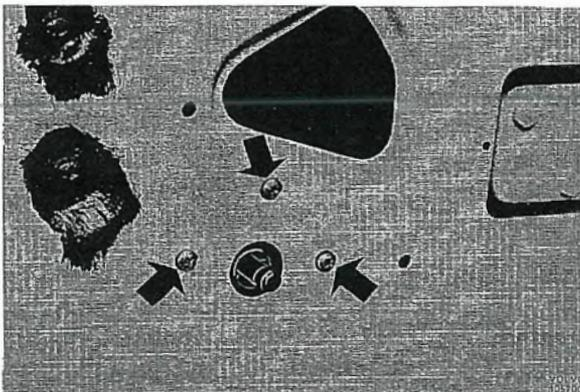

Fig. 8-16. Screws for remote control
3. Unscrew the three bolts for the remote control (see Fig. 8-16) and take out the control from the door.